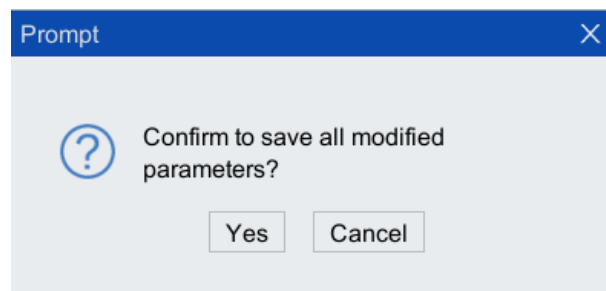

Figure 5-48 Confirmation save modification prompt box
Step2. Click <Yes> in the pop-up prompt dialog box. As shown in Figure 5-48.